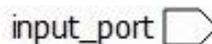

Figure 2.61. Input Port
- f. Click **OK**. The port appears. Figure 2.61 shows an input port, port name of which is on the left. Figure 2.62 shows an output port and an inout port, port names of which are on the right.